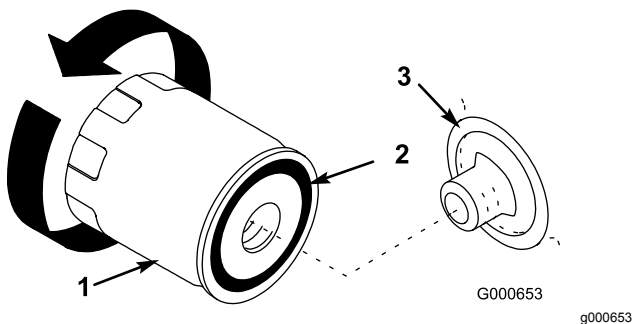

Figure 30
8. Remove the old filter and wipe the filter adapter (Figure 30) gasket surface.
tighten the filter an additional 1/2 turn (Figure 30).
9. Apply a thin coat of new oil to the rubber gasket on the replacement filter (Figure 30).